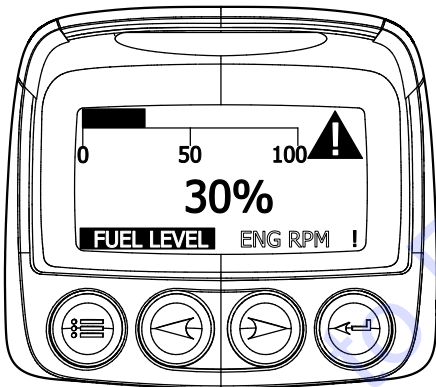

Figure 15. Fuel Gauge
2. Turn ignition key to the start position and read the fuel gauge to determine if the engine fuel level is low (Figure 15).